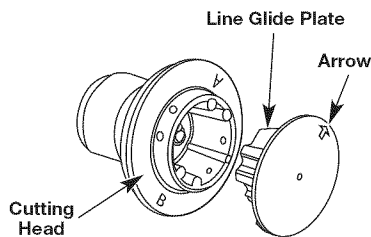

Fig. 21
3. Reinstall line glide plate (Fig. 21). Align arrow with: